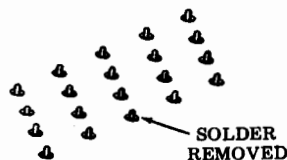

Fig. 13—Connector Pins
- (c) Remove solder from around connector pins of cable to be removed (Fig. 13).